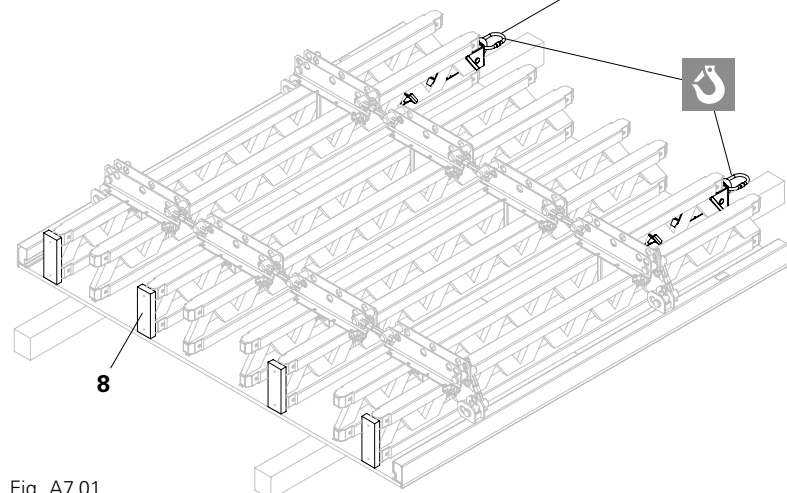

Fig. A7.01
1. Insert Crane Splice 24 (9) into the lattice-work of the girder and secure using securing bolts and cotter pins (9.1).
2. The supporting plate must enclose the web of the GT 24. (Fig. A7.01)
(Fig. A7.01)